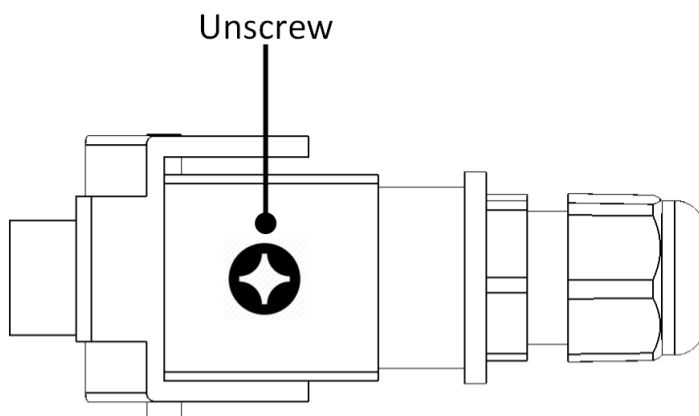

Figure 4: Protective Cover
2. On the female plug, remove the retaining screw from the protective cover (Figure 4).